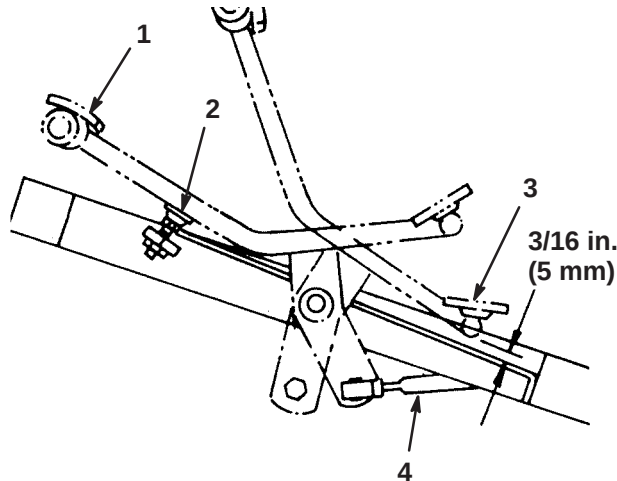

Figure 49
1. Press the traction pedal fully forward until the No. 5 section valve spool is completely pulled out. The pedal should contact the pedal stop (Fig. 49).
2. Check the distance between the bottom of the pedal and footrest as shown in Fig. 49. The distance should be approximately 3/16 in. (5 mm). If the distance is greater or less than 3/16 in. (5 mm), an adjustment to the traction control rod is required. Proceed as follows:
- A. Remove the jam nut and ball joint securing the control rod (Fig. 49) to the traction shaft pivot.